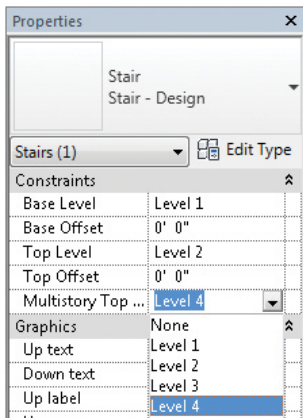

FIGURE 4.18 Changing the property to a multistory stair
3. Before you complete the stair, you need to change the stair properties. In the Properties palette, each stair has a Base Level parameter and a Top Level parameter. Below those settings is the Multistory Top Level parameter. Because your stairs run from Level 1 to Level 2 and then repeat for the floors above, you need to change the Multistory Top Level parameter to Level 4 — or whatever your highest level is (Figure 4.18).